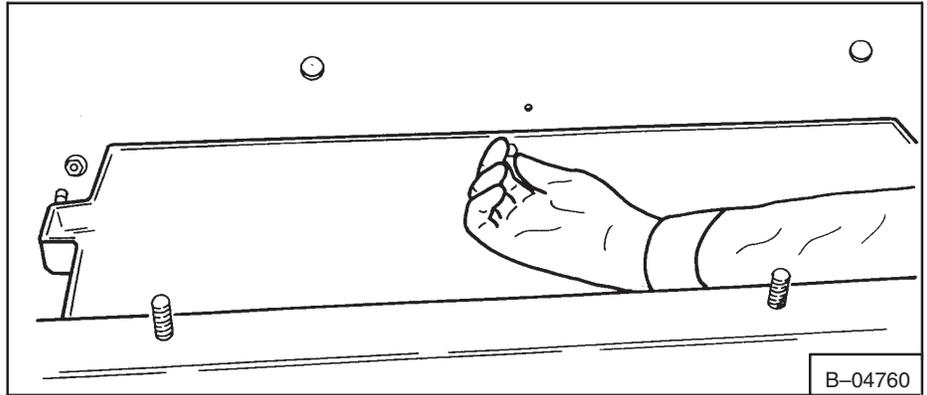

**Fig. 7B-73** Disconnecting Fuel Line
4. Remove the center nut from the blower housing (Fig. 7B-74).
5. Remove the bottom bolt from the blower housing (Fig. 7B-75).